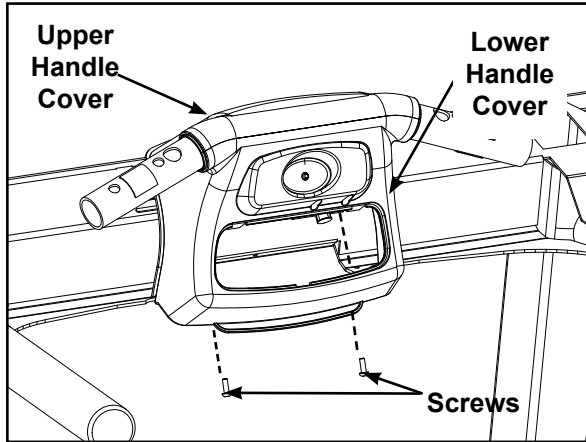

Figure 31
- A. Using a Phillips screwdriver, remove the two screws securing the lower handle cover to the upper handle cover. See Figure 31
- Using a Phillips screwdriver, install the two screws securing the lower handle cover to the upper handle cover. See Figure 31.